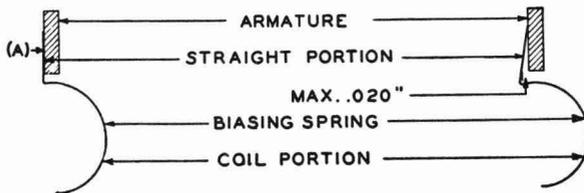

Fig. 1—Allowable Variation in Biasing Spring Position
- 1.03 **Biasing Spring Position: Fig. 1(A)**—Straight portion of the biasing spring shall rest approximately flat against the armature. Satisfactory if the top end rests against armature and clearance, if any, at bottom edge of armature is max 0.020 inch.